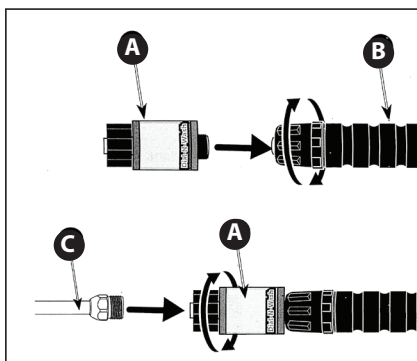

Fig. 1
4. Connect the Dial-N-Wash (A) to the spray gun (B). Make sure the arrow (D) faces up when the Dial-N-Wash is assembled.
5. Connect the spray wand (C) to the Dial-N-Wash (A).
6. Place the Dial-N-Wash in the MAX pressure setting by aligning the arrow (D) on the collar, as shown in Figure 1, and begin use.
Adjust the pressure by rotating the Dial-N-Wash clockwise for higher pressure (Figure 1) or counterclockwise for lower pressure (Figure 2), aligning the arrow with the desired pressure bar on the Dial-N-Wash.